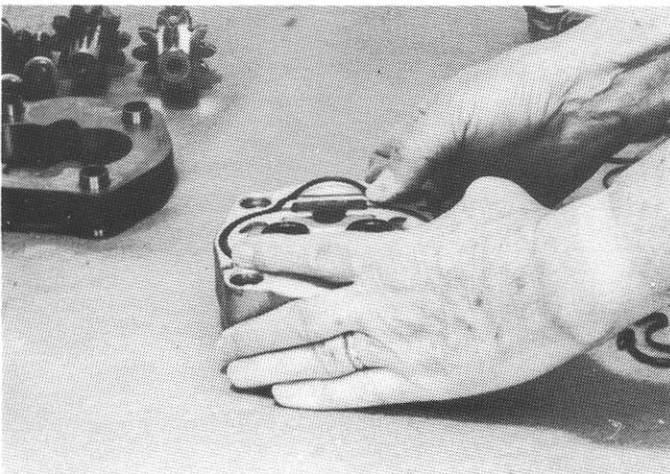

Fig. 13
16. Each pump is assembled and tested for a specific direction of rotation. Direction of rotation can not be changed without changing flange (3).
17. Install o-ring (6) in cover plate (1). After o-ring has been placed in groove, spread a light coat of clean heavy grease on the o-ring to hold it in place. (Fig. 13)